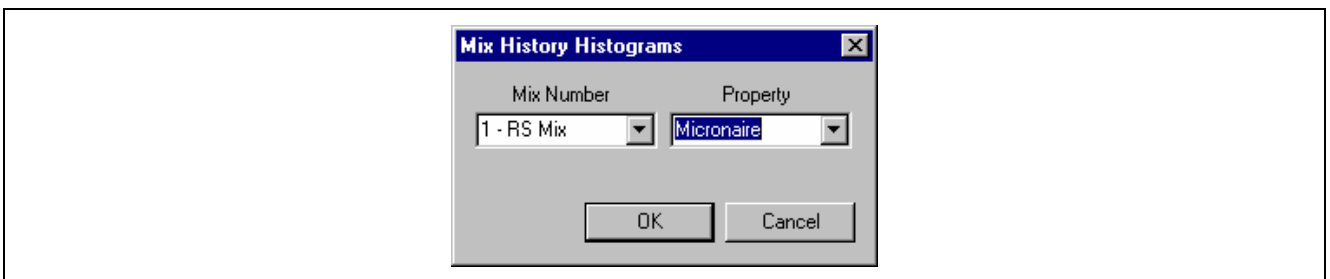

Fig. 6-96 Mix History Property Screen
28.2 From the window of Fig. 6-58, select View, then History and then select Histograms to see the window Mix History Histograms. Under Mix Number use the down arrow to select 1-RS MIX and under Property use the down arrow to select a fiber property. This time select Micronaire for a change (Fig. 6-96).